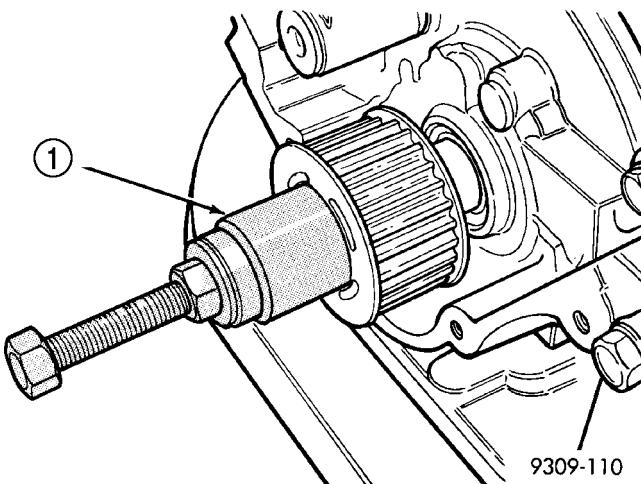

Fig. 158 CRANKSHAFT SPROCKET INSTALLATION
(1) Install crankshaft sprocket using Special Tools 6641 and C-4685-C1 (Fig. 158).
(2) Install timing belt. (Refer to 9 - ENGINE/VALVE TIMING/TIMING BELT/CHAIN AND SPROCKETS - INSTALLATION)